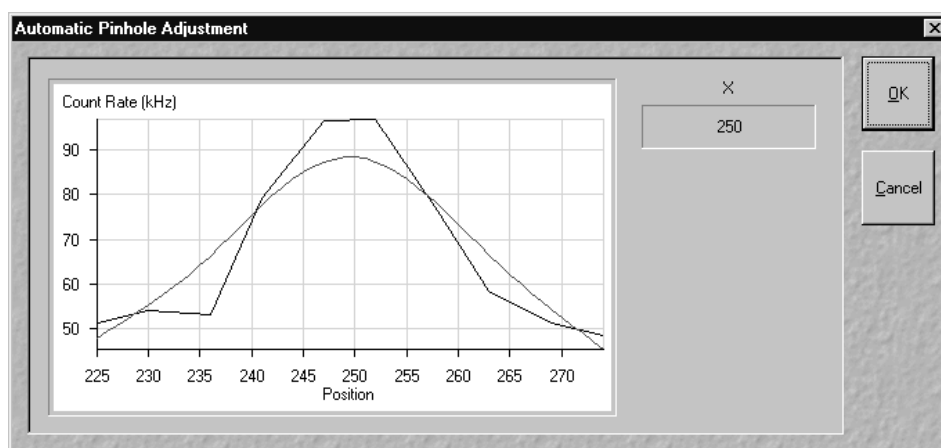

Fig. 3-70 Automatic Pinhole Adjustment
- The **Automatic Pinhole Adjustment** window will appear (Fig. 3-70). It is possible to exit the process using the **Cancel** button. When the process is finished, quit with **OK**.